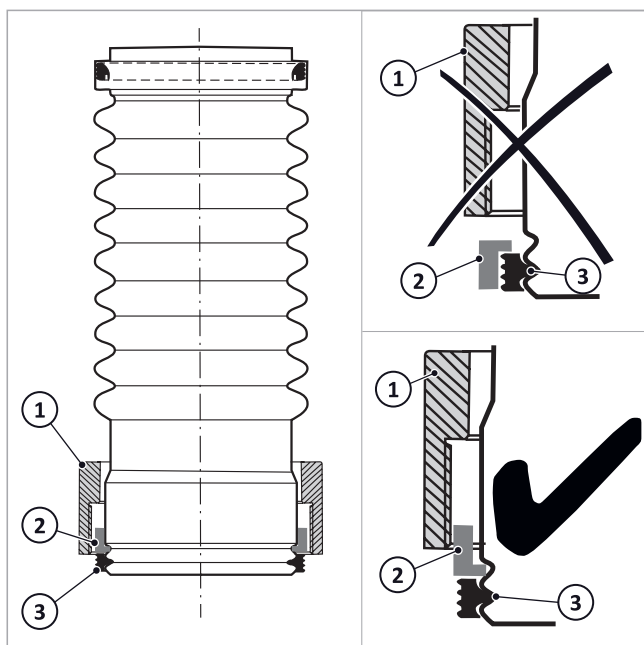

Fig. 61: Union attached
3. As shown in → fig. 61, slide the union nut (1), the snap ring (2) and the seal (3) onto the lower pipe end of the exhaust connection pipe section.